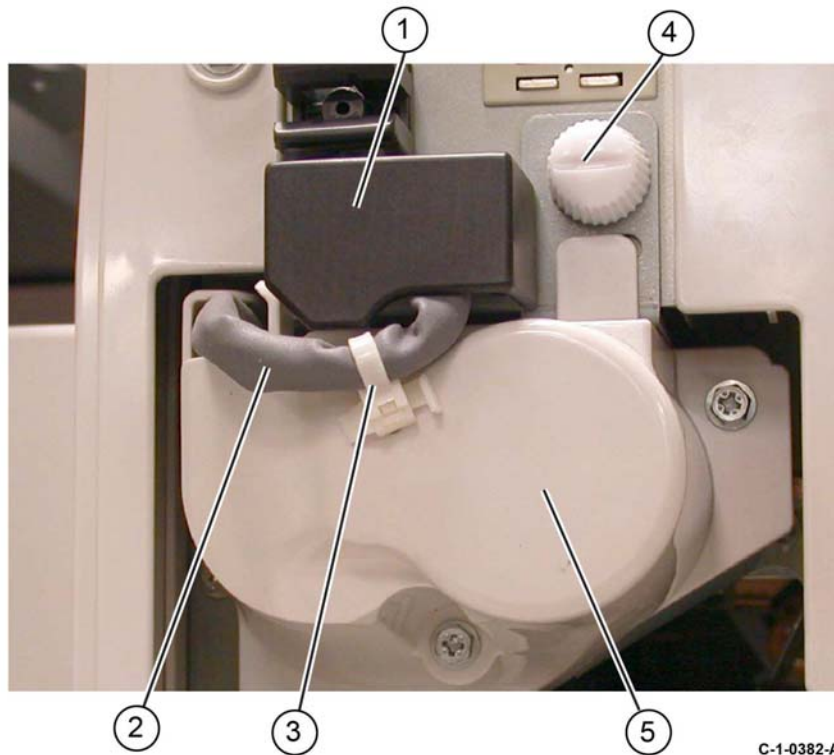

Figure 1 Crease assembly removal
1. Remove the crease assembly, Figure 1:
- b. Remove the guard (1).
- c. Disconnect the cable (2).